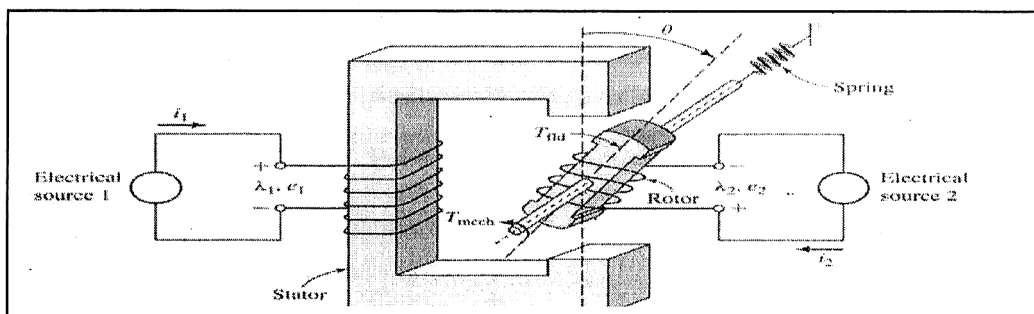

Fig.3
4. In an electromagnetic-energy-conversion-device shown in fig.3, if one winding is mounted on a stationary member of iron and another winding is mounted on the movable member of iron then draw this figure showing the flux and obtain the expression for electromagnetic torque in this doubly excited rotational electromechanical energy converter. Assume the necessary parameters for the system concerned. Also derive expressions for the speed and the transformer emfs. 16